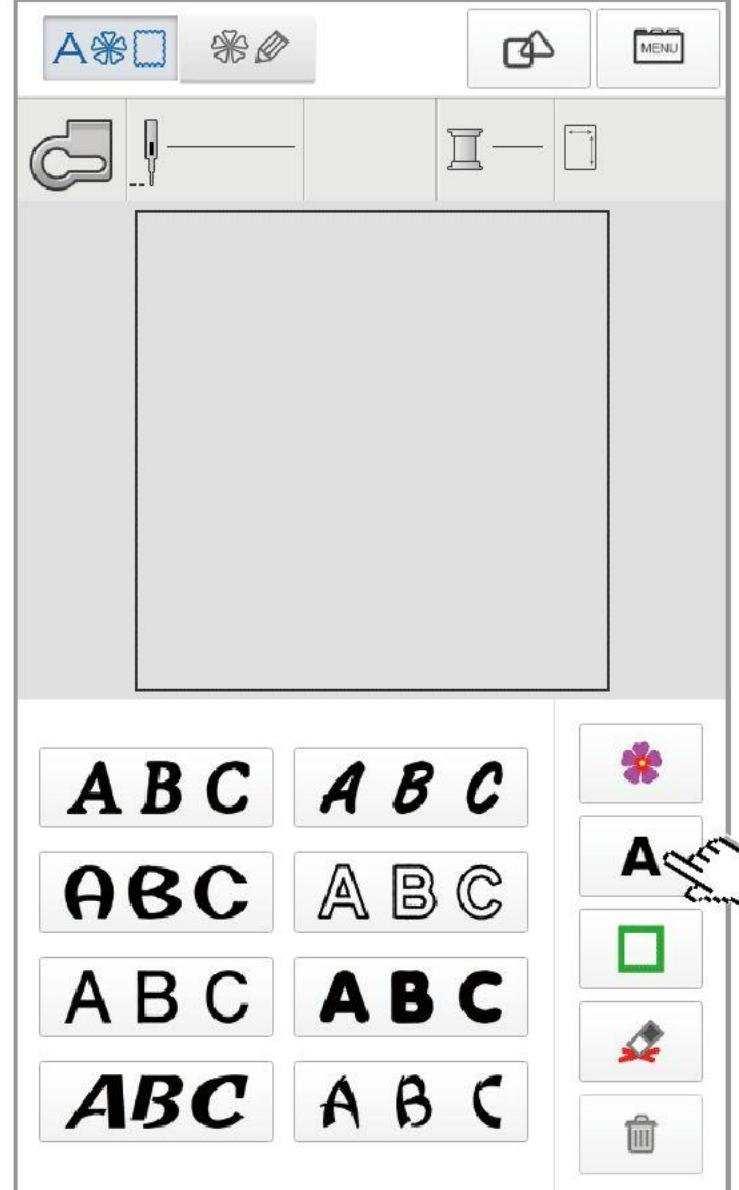

图9 Figure 9
① 点击“A”进入字体选择界面图9
Click "A" to enter the font selection interface in Figure 9.